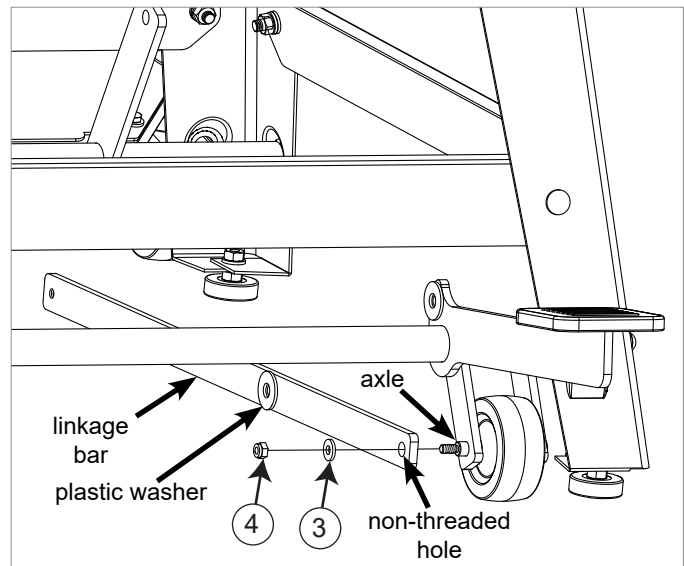

Fig. 9
9. Next, install the linkage bar between the wheel support and the caster support. To do this, remove the M6 nylon hex nut and the M6 washer from the axle for the wheel closest to the foot pad (this is the nut that was not tightened in step 3), but do not remove the axle or wheel. Locate the linkage bar and note that it has a non-threaded hole at one end and a plastic washer glued near the middle of the linkage bar. Position the linkage bar so that the plastic washer faces toward the inside of the stand, and slide the non-threaded hole at the end of the linkage bar over the exposed shoulder on the axle, as shown in Fig. 9. Reinstall the M6 washer and the M6 nylon hex nut on the axle and fully tighten the nut with a 10 mm wrench and a 5 mm hex key.